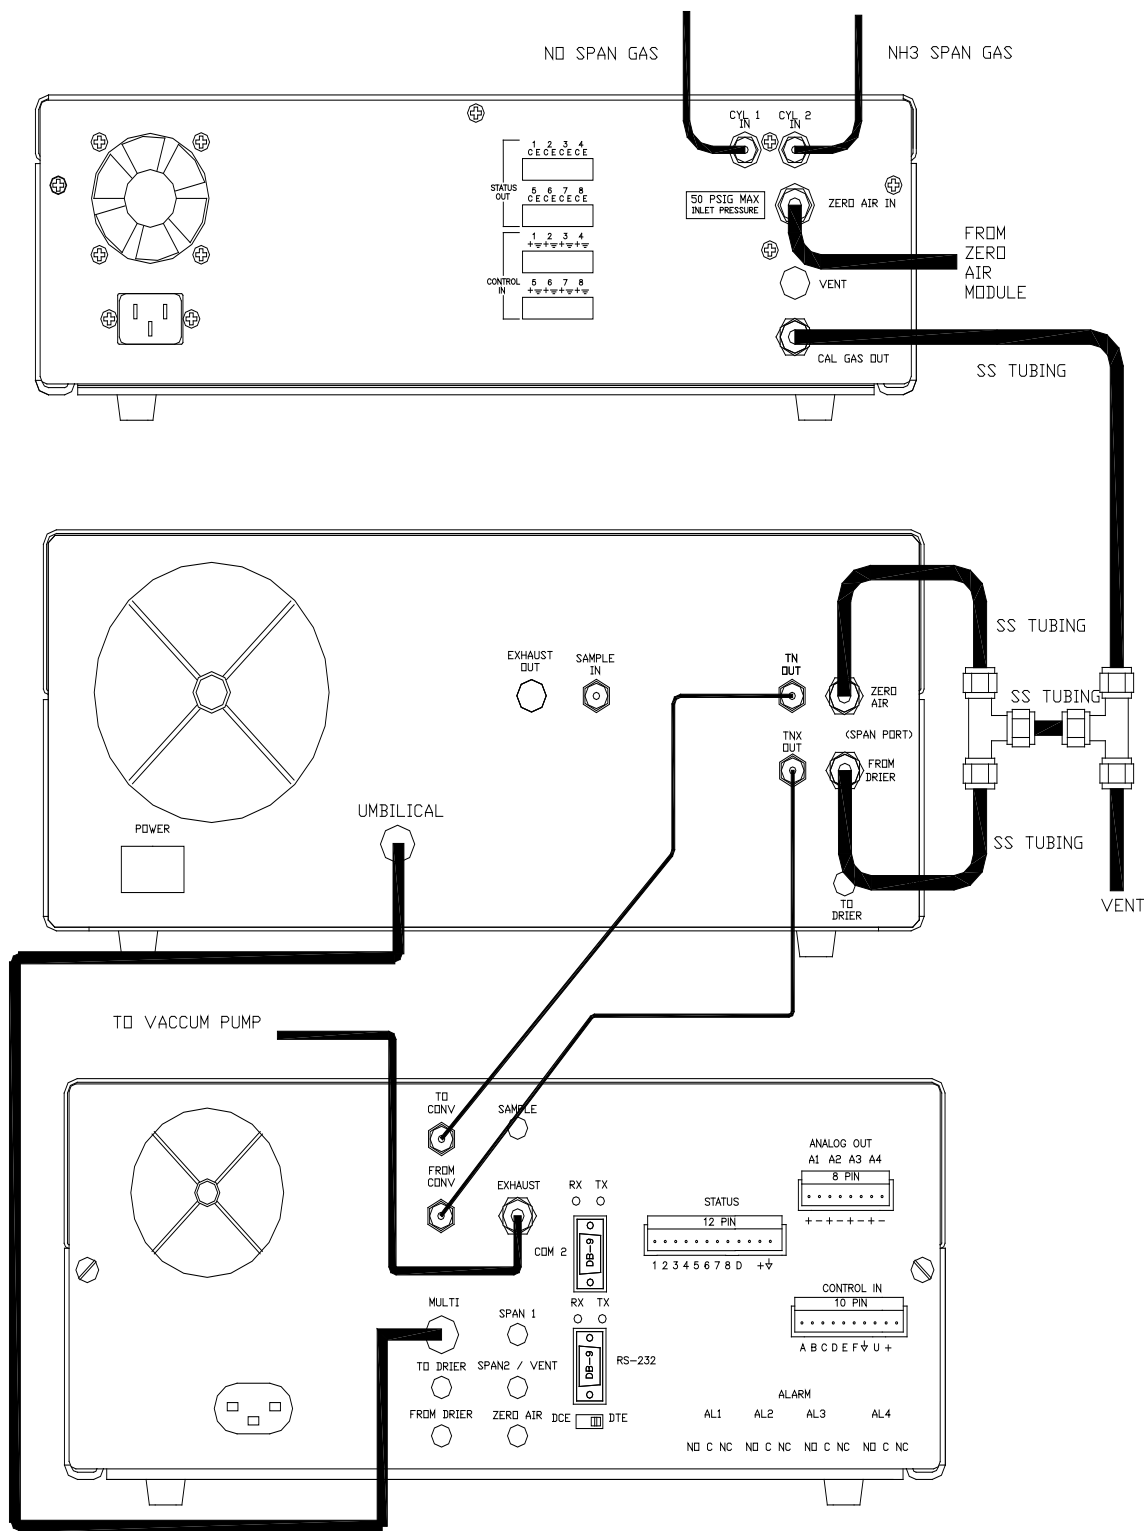

Figure 1-1. T201 Pneumatic Connection Diagram w/External Calibrator Option (ECO)
- The T201 with External Calibrator Option (ECO) is shown in Figure 1-1.
- Assemble the T201 analyzer according to the pneumatic configurations outlined in Figure 1-1. Remember: **DO NOT** pressurize the sample, span or zero ports (Zero/SPAN valves are optional) during calibration. Allow the analyzer to pull the gas through the system using the vacuum pump.